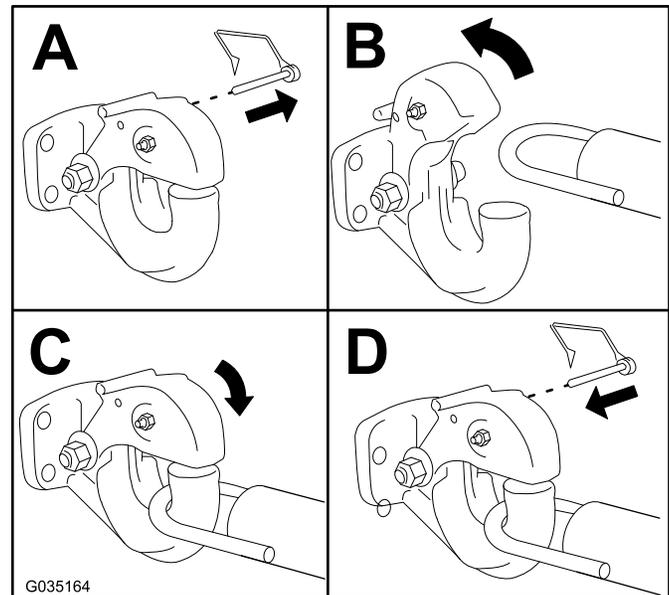

Figure 24
1. Hitch the machine as shown in Figure 24.